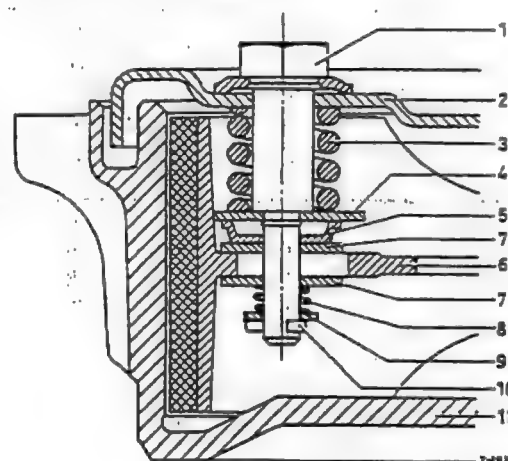

Fig. 42-9/2
8. Put the cup washer (5) on the adjustment bolt (1) (Fig. 42-9/1).
Note: On the 65 mm rear wheel brake an additional washer (7a) has been installed between the cup washer (5) and the brake shoe (6) (Fig. 42-9/2).